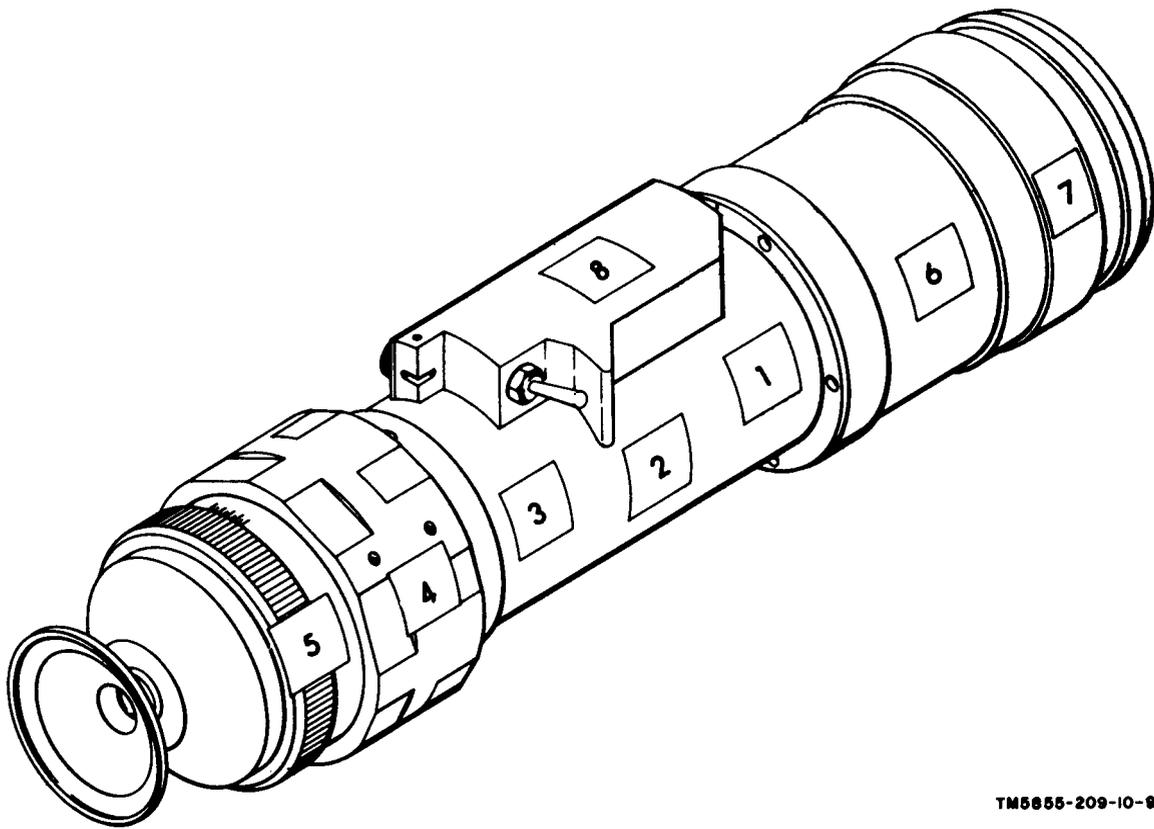

Figure 4-1. Night sight marked for demolition.
(1) Place the night sight against a sandbag, mound of dirt, or other suitable object so that the night sight is resting with a side facing the operator.
(2) At a distance of approximately 1 meter, fire rounds from a 7.62-mm M14 Rifle or 5.56-mm M16 Rifle into the points on the night sight designated by the squares indicated in figure 4-1. The numbers in the squares indicate the order in which the rounds should be fired.
(1) Fasten an M26 Fragmentation Grenade between points 2 and 8 shown in figure 4-1.
(2) Firmly attach the night sight and grenade to stakes, a tree trunk other suitable object.
- (1) Use a suitable heavy object to smash the night sight at the points indicated on figure 4-1.
- (2) Smash the accessory items and carrying case.